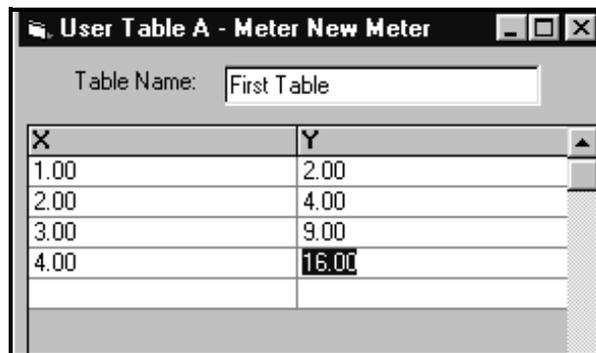

Figure 4-10: Completed User Table
3. Enter a name (up to 13 characters) for the table in the “Table Name” text box, and enter up to 16 X and Y values in the appropriate columns. The table now appears similar to Figure 4-10.